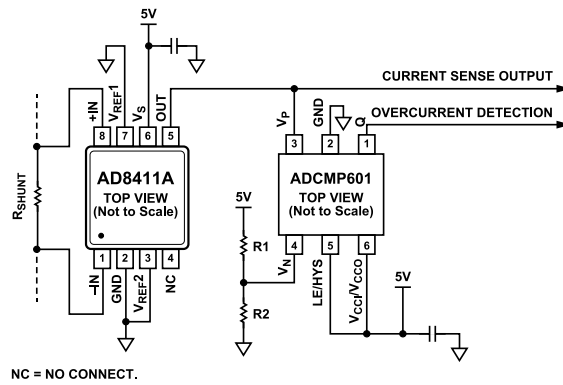

Figure 61. Unidirectional Overcurrent Detection
Another common practice for overcurrent detection in current-sense applications is to use a comparator on the output of the current-sense amplifier. Figure 61 and Figure 62 show typical configurations for monitoring current and using a comparator for overcurrent detection in unidirectional current and bidirectional currents, respectively.
Choose the values of R1 and R2 in Figure 61 and Figure 62 to set the threshold voltage at which the overcurrent detection trips. For example, for the bidirectional overcurrent detection configuration shown in Figure 62, if the shunt resistance (R_{SHUNT}) is 10 mΩ, and it is required to trip the overcurrent detection at ±3 A, use the following equations (5), (6), and (7) to find the R1 value after choosing an arbitrary value for R2. Choose R2 = 4800 Ω, and $V_S = 5$ V.